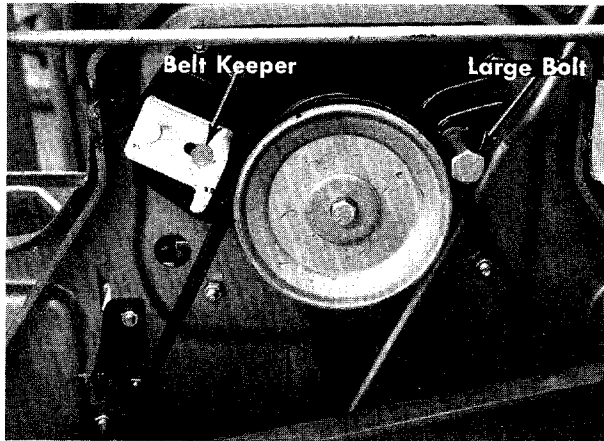

FIGURE 29. BELT KEEPER
- Step 2. Remove the belt keeper and large bolt on the engine pulley. See figure 29.